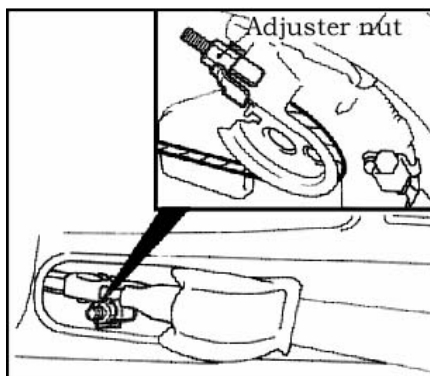

Fig. 16-49
(1) Loosen the adjusting nut to move it to the cable rod end so that the cable will be free.(see Fig.16-49)。